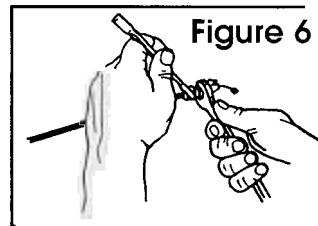

Figure 6
5. Tighten the assembly (**Figure 6**). Use a 1/2" and 5/8" open end wrench to tighten the cable end and ferrule nut. This will force the neoprene ferrule against the outer housing and make a perfect secure seal. Tighten the ferrule fitting until the fitting is stationary on the outer housing. The cable is now repaired and ready for installation.